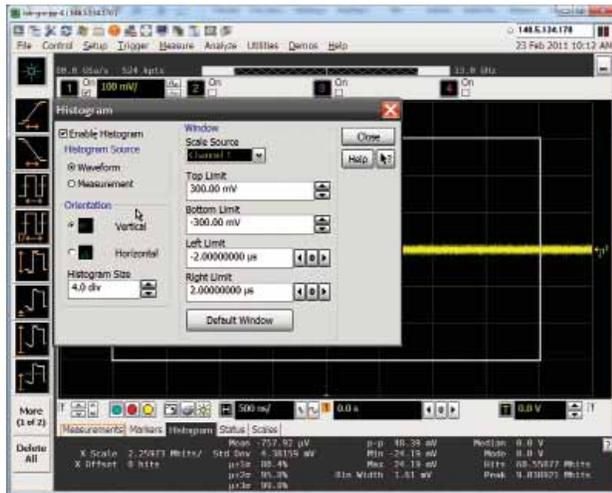

Figure 3. Histogram measurement window for an Agilent oscilloscope
7. Both Agilent and Tektronix offer a vertical histogram capability, which is an excellent way to compare results with the AC RMS measurement. For these vendor's oscilloscopes, enable the vertical histogram measurement. For Agilent oscilloscopes, this can be done by choosing: Analyze → Histogram → Enable Histogram → Orientation to Vertical (Figure 3). Use the Std Dev measurement in the histogram window. Note that it should be the same as the AC RMS measurement.